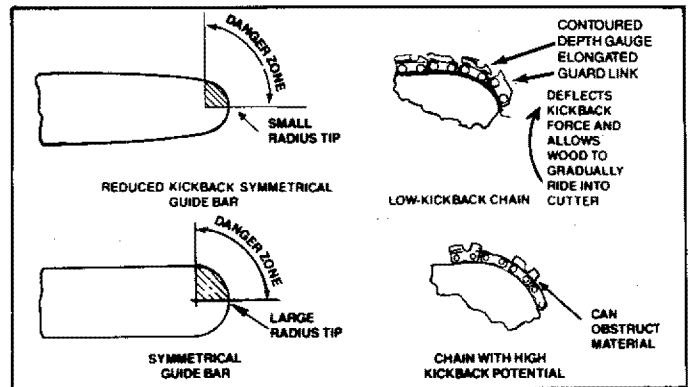

Figure 5
- **Reduced-Kickback Guide Bar**, designed with a small radius tip which reduces the size of the kickback danger zone on the bar tip. Figure 5. A Reduced Kickback Guide Bar is one which has been demonstrated to significantly reduce the number and seriousness of kickbacks when tested in accordance with the safety requirements for gasoline powered chain saws as set by the American National Standards Institute, Inc., Standard B175.1 - 1985.
- **Low-Kickback Chain**, designed with a contoured depth gauge and guard link which deflect the kickback force and allow wood to gradually ride into the cutter. Figure 5. Low Kickback Saw Chain is a chain which has met the kickback performance requirements of ANSI B175.1 when tested on a representative sample of chain saws below 3.8 cubic inch displacement specified in ANSI B175.1-1985. (American National Standard for Power Tools - Gasoline Powered Chain Saws - Safety Requirements).